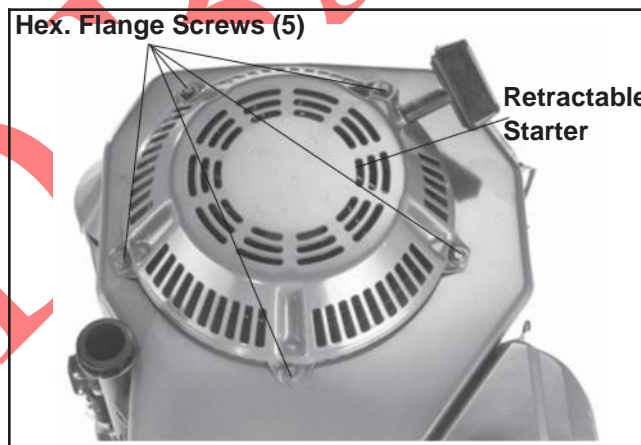

Figure 9-4. Removing Retractable Starter.
1. Remove the five hex. flange screws and retractable starter. See Figure 9-4.